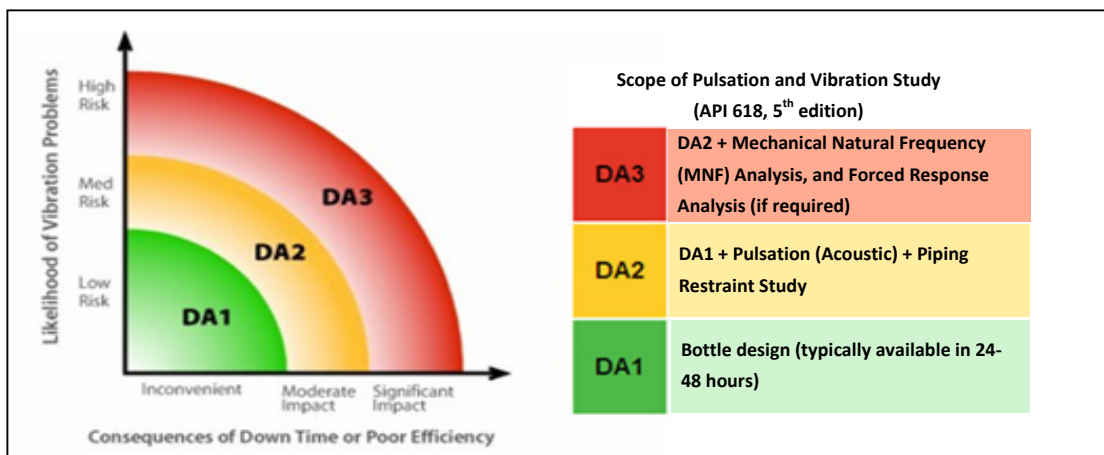

Figure 1.5: Risk Assessment Used to Determine Vibration Design Approach (DA) for the Compressor and Piping System
A risk assessment determines which Design Approach is required (per API 618, 5th Edition). Figure 1.5 illustrates how risk is related to the design study scope for the compressor and piping system.
- **Select the appropriate pulsation or mechanical analysis (DA1, DA2 or DA3)** – per figure 1.5. For a DA3 study, a Forced Response Study to calculate vibration and stress amplitudes.